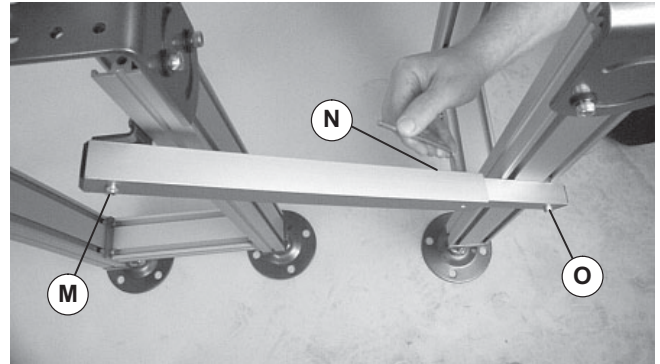

Figure 20
1. Loosen screws (Figure 20, item M, N & O).
3. Tighten screws (Figure 20, item M, N & O) to 80 in-lb (9 Nm).